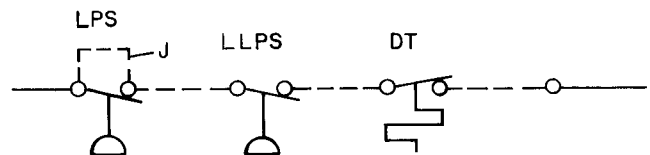

Fig. 55 — Defrost Thermostat with Jumper on Low-Pressure Switch and New Liquid Line Low-Pressure Switch Installed
4. **Winter Start Control** is required on all 50DF units. Jumper low-pressure switch to make it inactive. **DO NOT RELOCATE.** Install new liquid line low-pressure switch at liquid line service valve and reset it for 5 psig. (Low-pressure switch, Carrier Part No. HK02AB026, preset at 5 psig, is recommended.) When required by the application, install a defrost thermostat (Carrier Part No. 50BB900001 or HH22UA025) on evaporator coil to provide freeze-up protection lost by jumpering low-pressure switch. (See Fig. 55.)